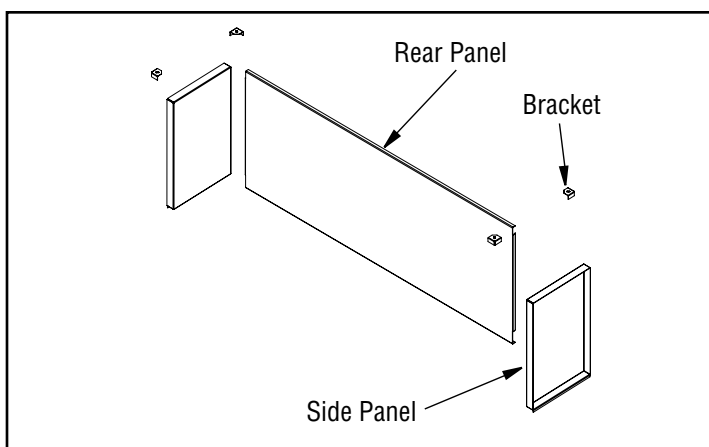

Figure 40 - Removing Rear Interior Wall for See-Thru Applications
2. Unscrew 4 corner brackets from the firebox top (See **Figure 40**).